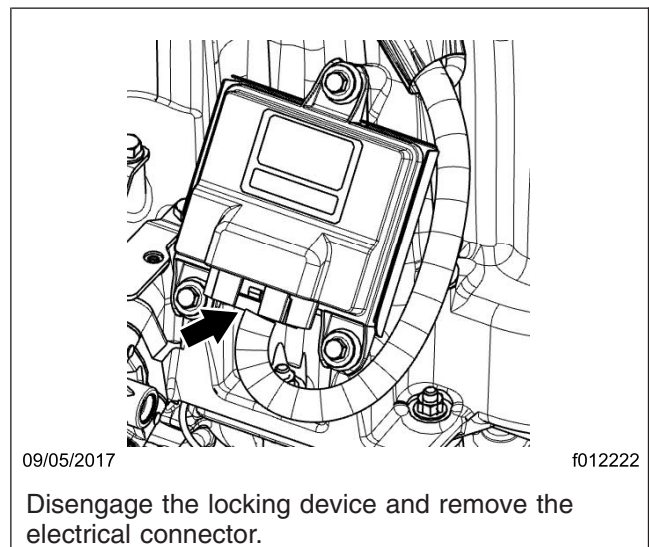

Fig. 4, Torque Security Module
11. Disengage the locking device and remove the electrical connector at the torque security module (TSM). See Fig. 4.